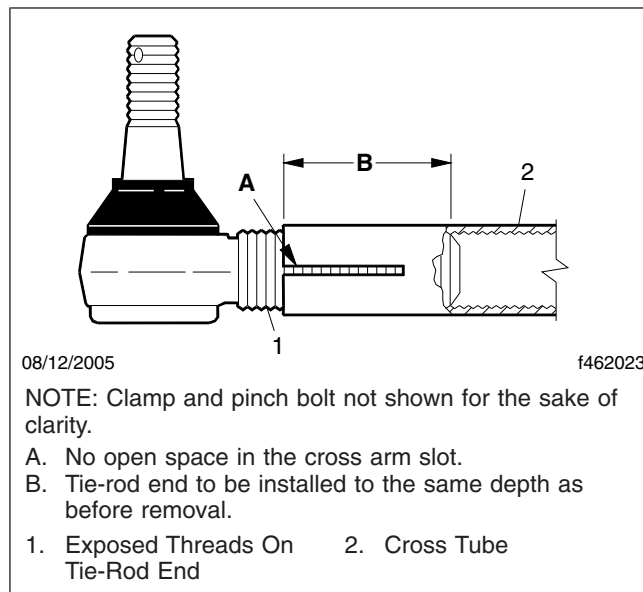

Fig. 7, Installing Tie-Rod Ends
- 3.1 Install the new tie-rod ends in the cross tube, making sure they are installed to the approximate depth of the previously removed tie-rod ends. See Fig. 7. Refer to the number of threads exposed in the old ends.